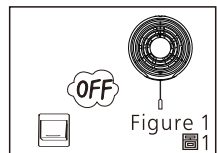

Figure 1
- Disconnect the power supply until blade is completely stopped before clean and maintenance. (Figure 1)